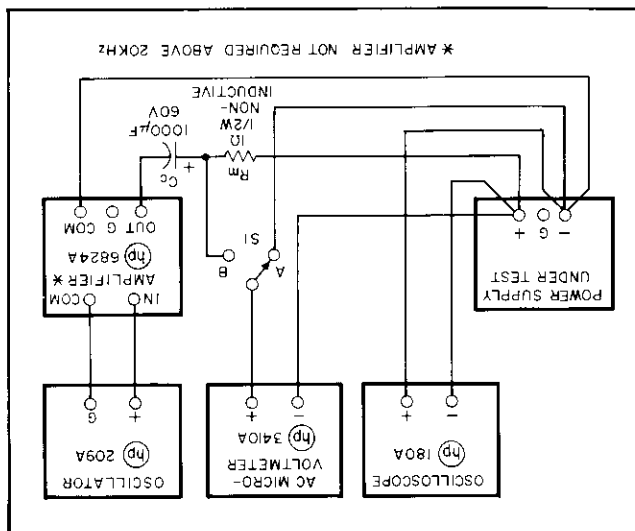

Figure 5-7. Output Impedance Test Setup
5-40 The test setup to be used is shown in Figure 5-7. It is important that the measuring instruments shown in the figure (oscilloscope and microvoltmeter) be connected directly across the power supply output terminals rather than at other points in the test setup. In addition, each instrument should be connected to the power supply with its own pair of leads in order to minimize mutual coupling effects. Monitoring resistor R_M (1 ohm, $\frac{1}{2}$ watt) must be a non-inductive resistor. The value shown for coupling capacitor C_C is the minimum required value; larger values of capacitance can be used without difficulty.
- a. Connect test setup shown in Figure 5-7.